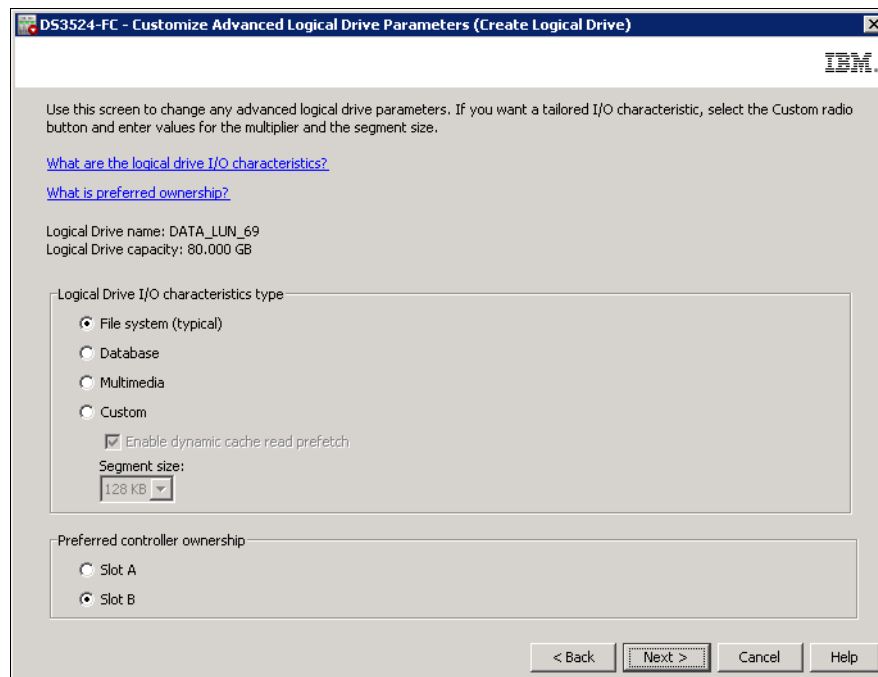

Figure 9-19 Customize logical drive parameters
4. The Customize Advanced Logical Drive Parameters window opens (Figure 9-19). You can set your new logical drive using any of the predefined I/O types listed, or manually set the cache read ahead multiplier, segment size, and controller ownership: